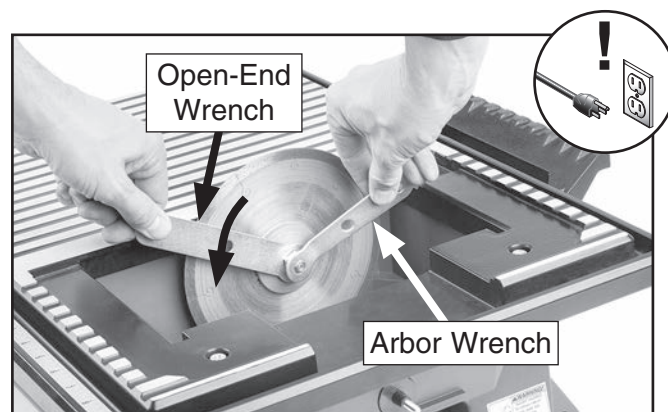

Figure 37. Loosening arbor nut.
5. Use arbor wrench to secure arbor then remove nut with open-end wrench (see **Figure 37**).